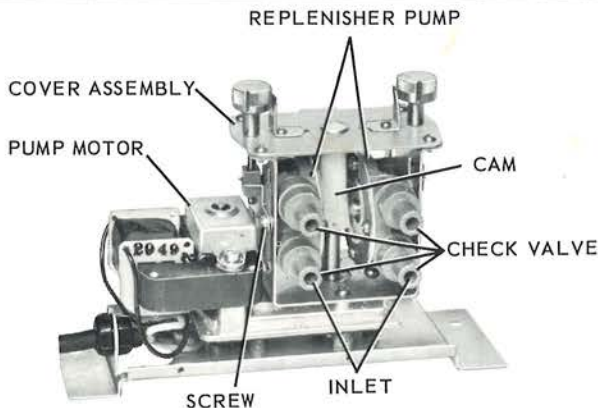

FIGURE 46 REPLENISHER PUMP ASSEMBLY (COVER REMOVED)
3-112. Life of the CAM, figure 46, can be greatly extended by lubrication. (See the Lubrication Chart, Section VI.)
3-113. CHECK VALVES, which are an integral part of the REPLENISHER PUMPS, prevent solutions from draining from the processor to the replenisher tanks. If at any time the tubes in the FLOW INDICATOR, figure 14, are not completely filled with solution or if bubbles are observed, the check valves are not operating properly. If this occurs, clean the pumps by flushing with warm water. This is done by attaching a length of hose to the pump INLETS, figure 46.
- Remove the SCREWS, figure 46, which hold the pump body assembly to the bracket.
- Remove the four screws and lift off the bracket COVER ASSEMBLY, figure 46.